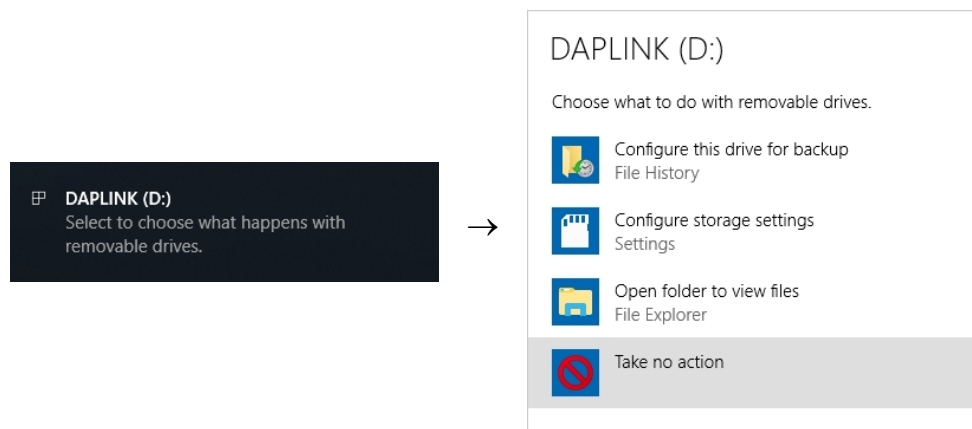

Figure 2. Windows select removable drive options
- i. First, Windows may give a notification to select what happens with removable drives. Since the board will not be used directly as a removable drive in this course, click the notification to launch the select options window, and then select Take no action, as shown in Figure 2.